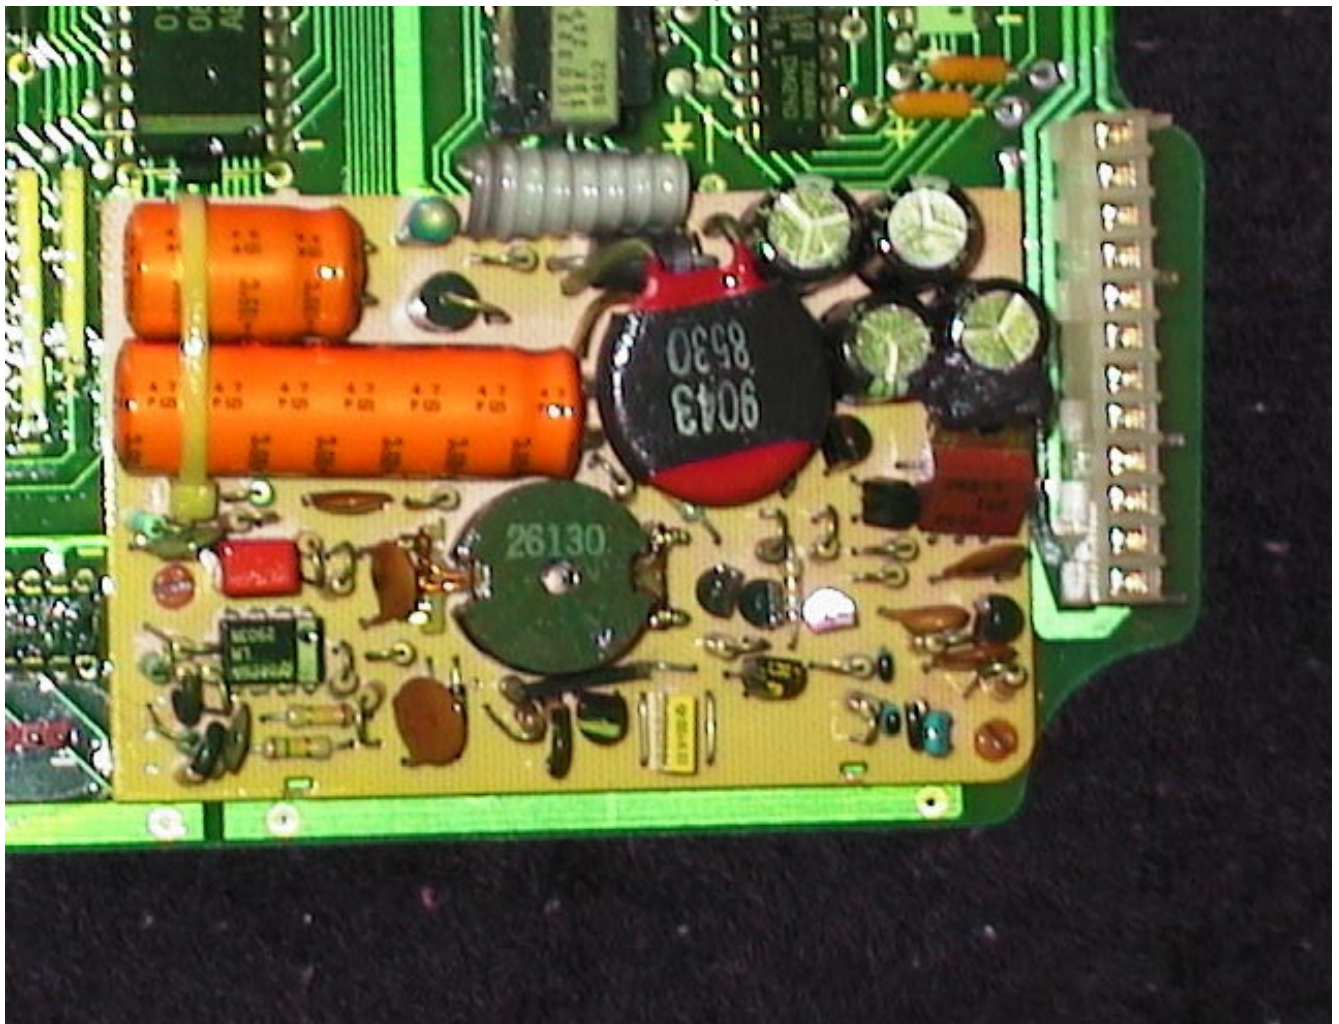

Figure 6 - Top Circuit board interconnector with power supply piggybacked (Front View)
6. I didn't find any cold solder joints on the top circuit board connector, but while it's apart, you might as well resolder them too. See Figures 6 and 7.
Authors notes: The power supply board is pictured in Figure 6 (the one with the cylindrical orange things). Be careful of that ribbon cable - if yours doesn't have a connector (mine didn't), be careful not to pull it loose from the larger circuit board - it's a really short cable! Remove the board and resolder everything. It's quite a few connections to solder, but it'll be worth it in the long run. You don't want to have to do this again, do you?